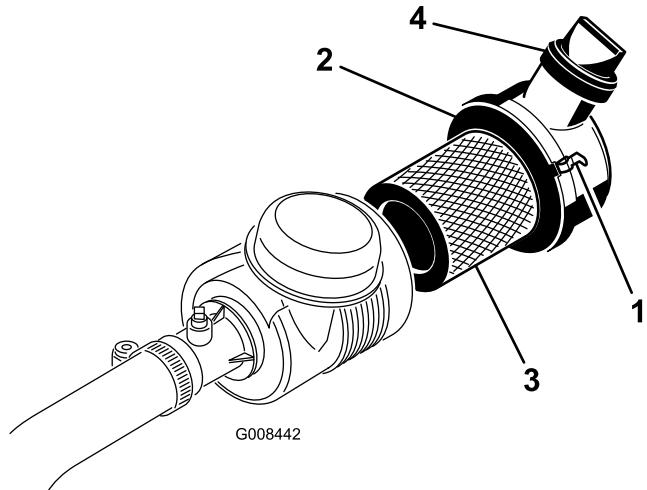

Figure 37
- Release the latches securing the air cleaner cover to the air cleaner body (Figure 37).
- Reinstall the cover and secure the latches (Figure 37).